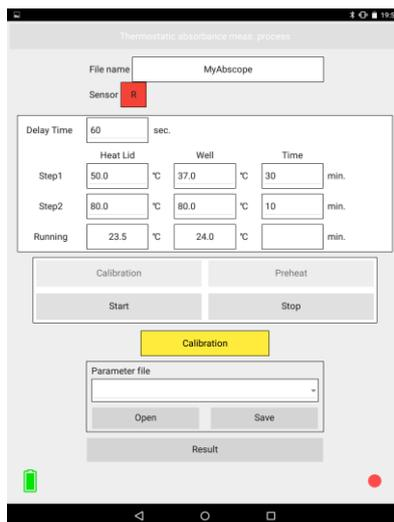

Figure 4-12: Light intensity calibration screen
- (12) Tap “Calibration,” the light intensity calibration start button, (4) in Figure 4-7 to start light intensity calibration, displaying “Calibration” (Figure 4-12). (During calibration, the pilot lamp beside the Power button on the main unit blinks in blue, and the green circle ● on the lower right of the tablet screen changes to a red circle ●. Light intensity calibration will take about three minutes.)